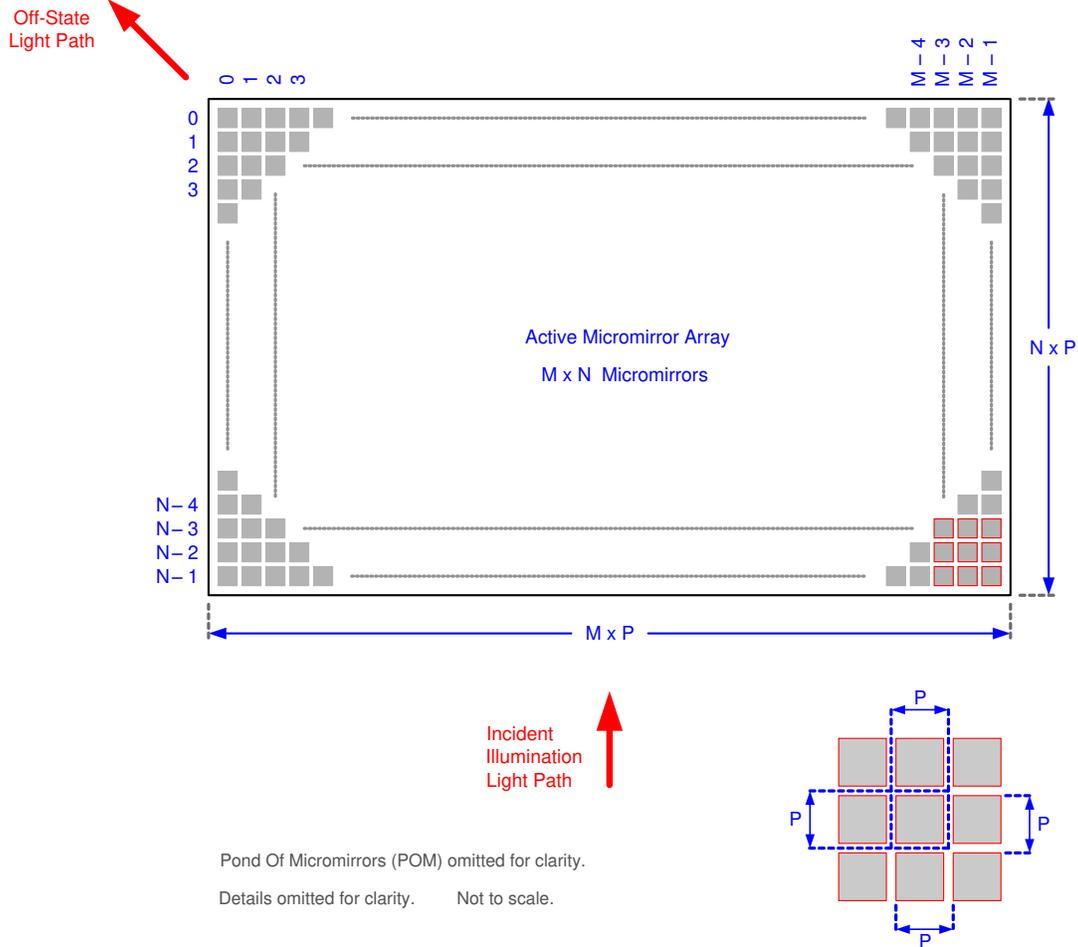

**Figure 5-13. System Mounting Interface Loads**
(1) The load should be uniformly applied in the corresponding areas shown in Figure 5-13.